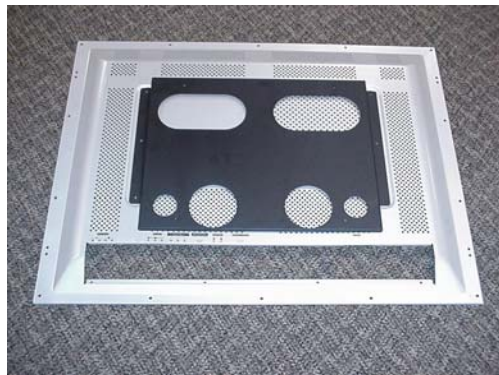

Figure 2
2. Align hole pattern on brackets with pattern on back of Plasma Display and attach utilizing the M5 button head cap screws(see Figure 2).